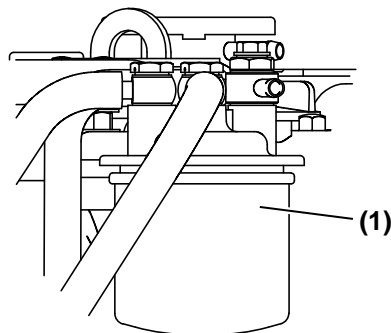

Figure 13
(Figure 13, (1)) with a filter wrench.